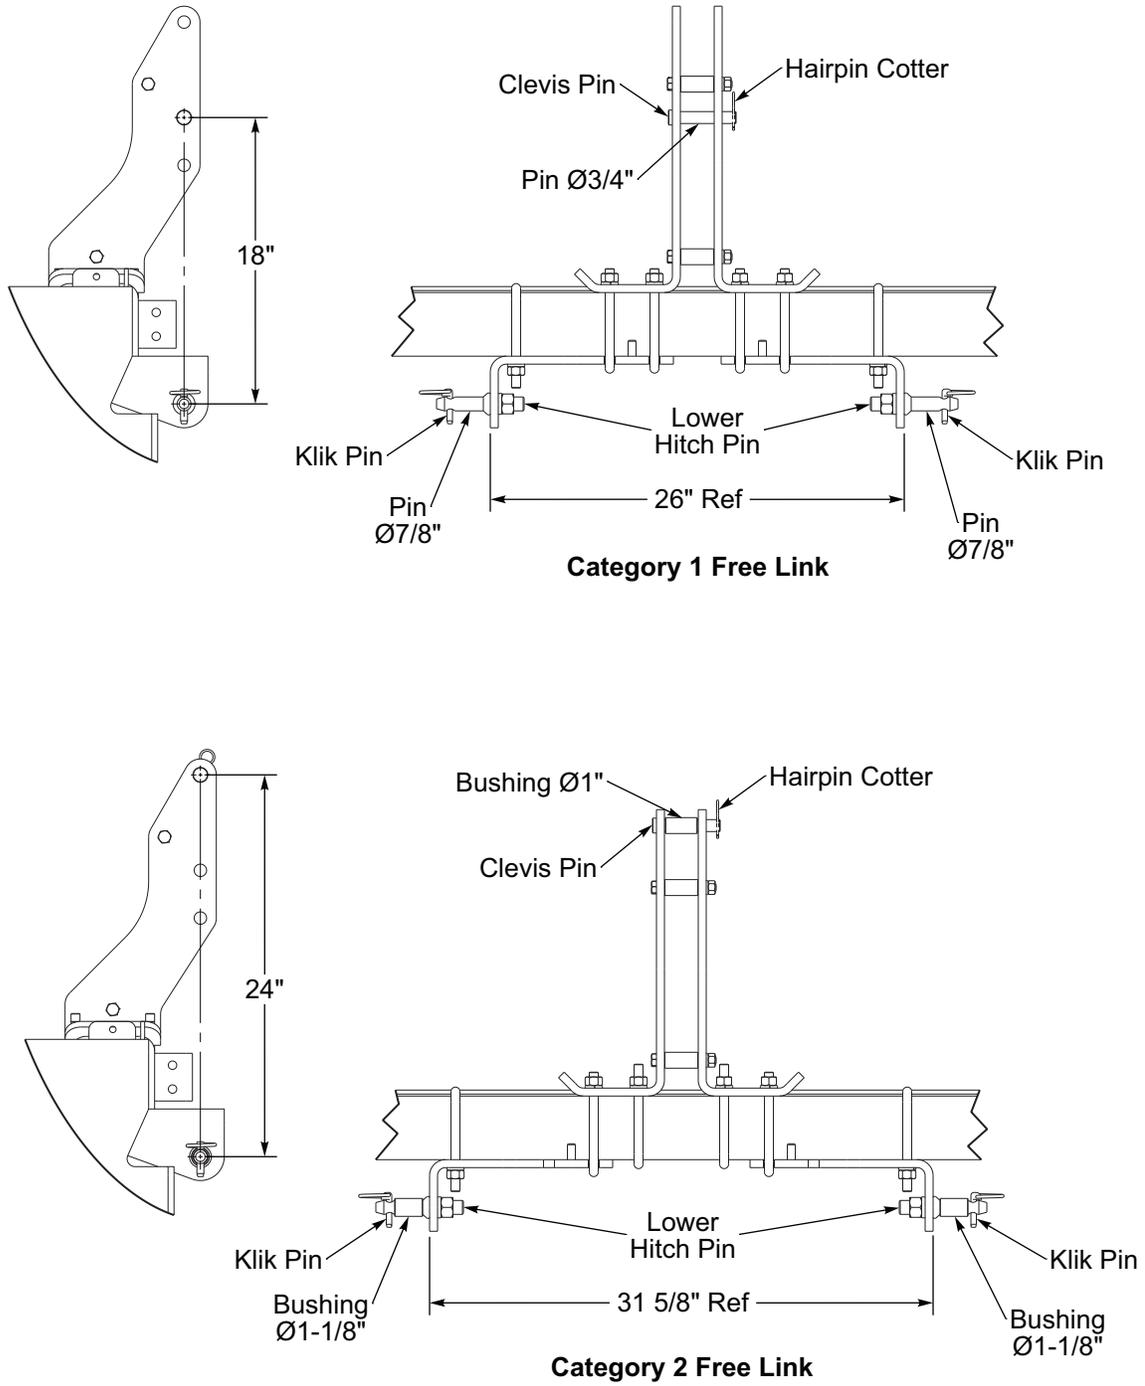

Figure 3-2: 3-PT Hitch - Category Pin Positions - Free Link
1. The Till 'N Seed is designed to be used with Category 1 or 2 Free Link, Category 1 or 2 Quick Hitch. **See Figures 3-2 and 3-3.** Be sure Tractor's Hitch Capacity is not exceeded by the Laden Mass of the Seeder. **Refer to Tractor Operator's Manual.**
1. Attach the Till 'N Seed to the Tractor's 3-PT Free Link or Quick Hitch using the appropriate size pins and bushings. Be sure to use the hardware provided and is in good working order. **See Figures 3-2 and 3-3.**